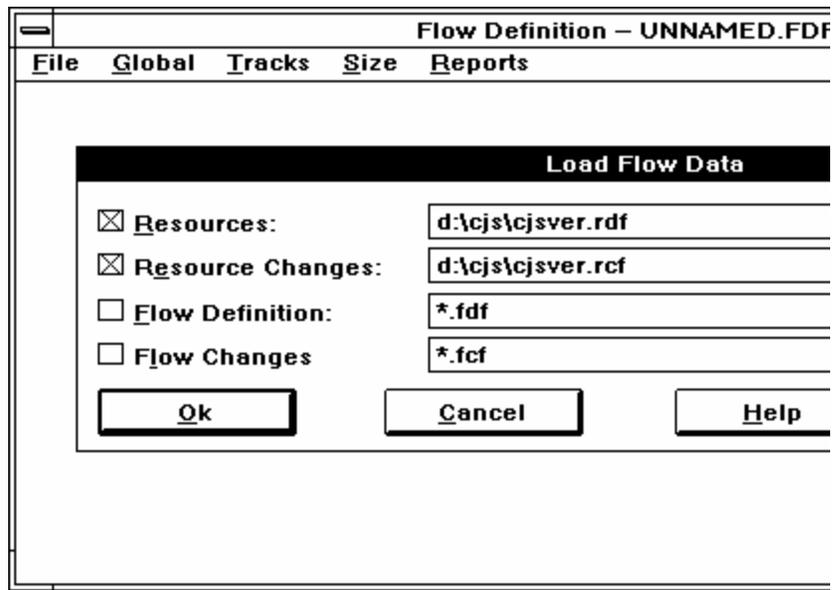

Figure 3-4. Selecting the Resources and Resource Changes options.
4. Move the mouse to the file listings and double-click the file named CJSVER.RDF. The system will automatically enter that filename and the name CJSVER.RCF beside the checked boxes. (See Figure 3-4) CJSVER.RDF contains baseline information about the resources in the system, such as resource name, costs, and capacities. CJSVER.RCF contains proposed changes to resources, such as increased costs or capacities.